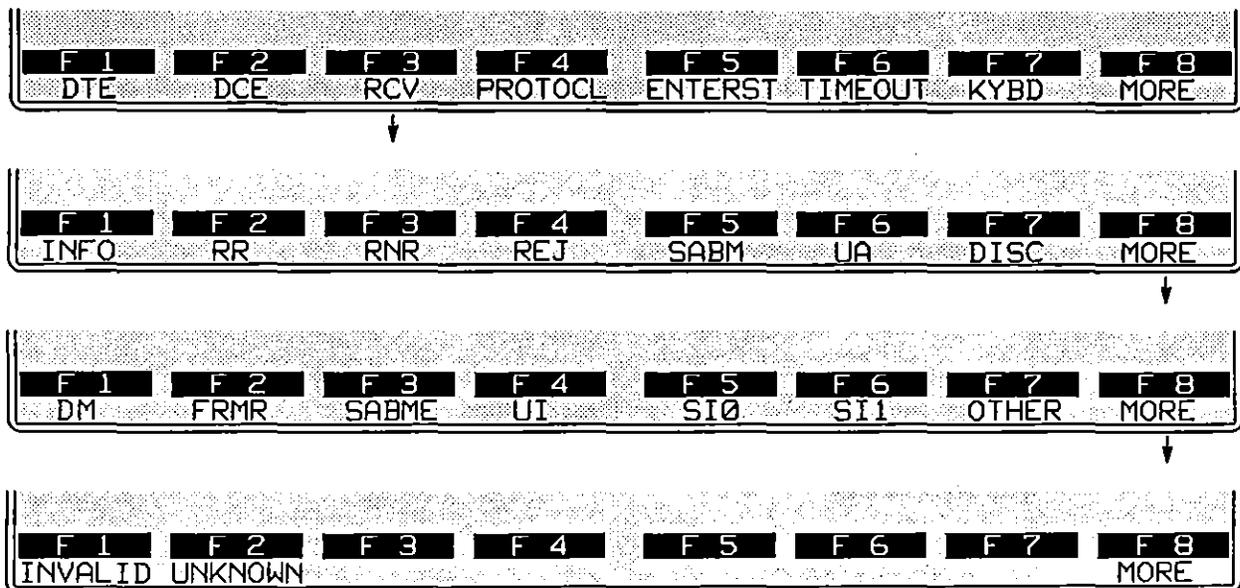

Figure 42-14 *INVALID* and *UNKNOWN* are frame types for RCV conditions.
3. *Type invalid.* RCV conditions can detect frames that are invalid "types"—the control field is missing, for example, or the I-field is missing in an I-frame. The Protocol Spreadsheet entry for this condition is RCV INVALID, and the softkey sequence is illustrated in Figure 42-14.
4. *Type unknown.* A frame may be valid in all respects but have a control field that indicates a nonstandard frame type. Such a frame may be matched by a RCV UNKNOWN condition (Figure 42-14).